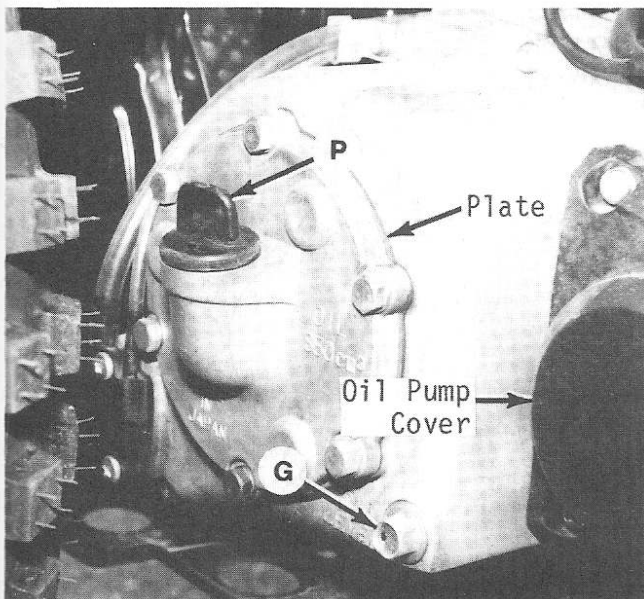
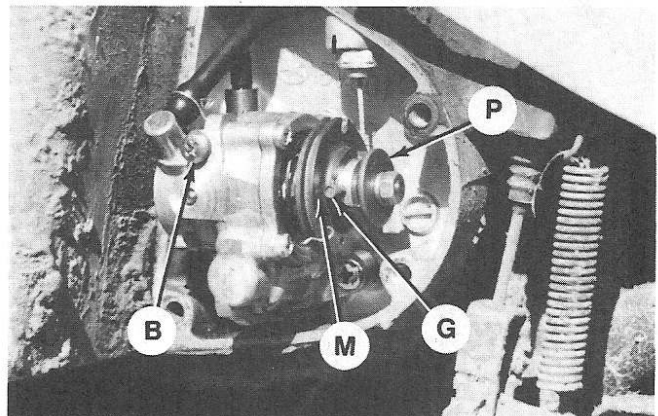
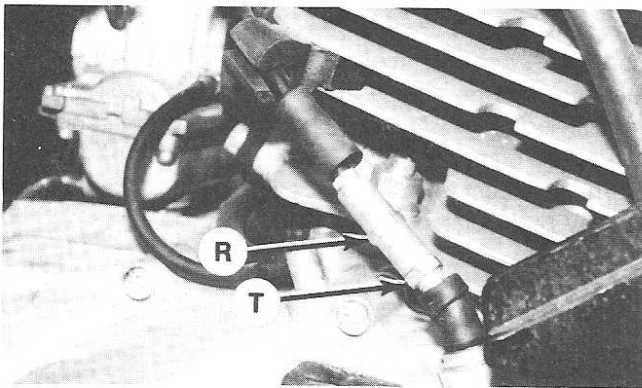
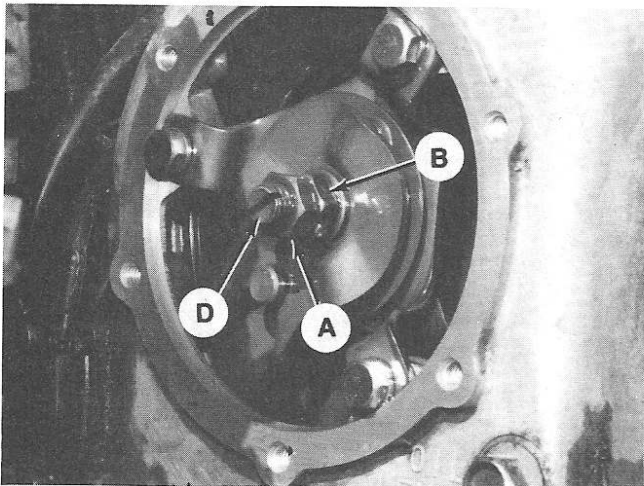

Fig. Y4-1—Remove plug (P) and pour oil through opening to fill transmission. Oil should reach level of plug (G) hole.
Fig. Y4-8—View of oil pump. Refer to text for pump adjustment procedure.
Fig. Y4-9—Rotate adjuster (R) to align oil pump mark with guide pin. See text.
Fig. Y4-10—View of clutch release mechanism. Stud (D) should rotate with little effort but have no end play.
To check oil level, warm up engine for a few minutes then stop engine. With vehicle on a level surface, oil should just flow out of hole after removing plug (G—Fig. Y4-1). If needed, add oil through fill plug (P) opening.
mixture thereby lubricating the engine. The oil pump is located on the right side of the engine crankcase behind the cover shown in Fig. Y4-1.
**ADJUSTMENT.** Oil pump output must be matched with engine rpm by adjusting the pump cable. To check cable adjustment, remove the oil pump cover (Fig. Y4-1). Push the throttle lever until all slack is removed from cables. Guide pin (G—Fig. Y4-8) should be aligned with mark (M) on the cable pulley. If not, loosen locknut (T—Fig. Y4-9) and rotate adjuster (R) so mark and guide pin are aligned. Tighten locknut and repeat checking procedure.
Minimum pump stroke may also be checked with the pump cover removed. Start engine and run at idle while watching movement of adjusting plate (P—Fig. Y4-8). Stop engine as soon as the adjusting plate moves out to its farthestmost position. Measure the gap between the adjusting plate and the boss on the cable pulley. The gap should be 0.20-0.25 mm (0.008-0.010 in.). If gap is incorrect, unscrew locknut and remove adjusting plate. Add or delete shims behind adjusting plate so correct gap is obtained.
To bleed air from the oil pump and the oil line leading to the pump, unscrew bleeder screw (B—Fig. Y4-8) and allow oil to exit hole until air-free oil is present. Replace bleeder screw. To bleed delivery line to engine, run engine at idle. Pull oil control cable so cable pulley rotates to maximum output position and run engine at approximately 2000 rpm for a couple of minutes.
To adjust clutch, remove right side plate shown in Fig. Y4-1; to prevent oil loss slightly tip up right side of vehicle. Slightly loosen locknuts (A & B—Fig. Y4-10). Back out adjusting stud (D) then turn in stud until slight resistance is felt. Hold position of stud and tighten locknut (B). Then tighten locknut (A). It should be possible to rotate stud with little effort but there should be no end play.